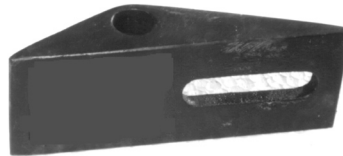

Figure 5 - Stop Block Orientation
**Step 1)** There are four (4) key positions to place the Square Stop Block (#3) in while bending. The four positions (as seen from looking down on the top of the Square Stop Block) are identified in this manual by a letter; A, B, C, or D. See Figure 5 on the next page, for the letter and the corresponding position of the Square Stop Block.
Step 3) Set the Square Stop Block (#3) into the 1st hole on the Ring Assembly (#10). Orient it as in B (Figure 5 on page 8 of this manual).